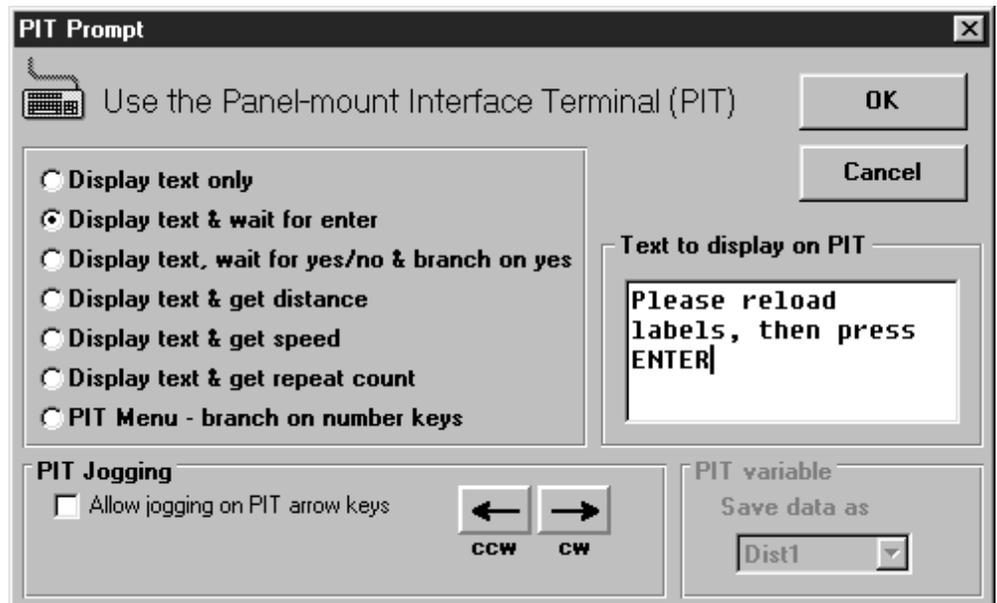

Figure 34 - PAUSING UNTIL USER PRESSES ENTER
**TO PAUSE UNTIL USER PRESSES ENTER (see Figure 34)**